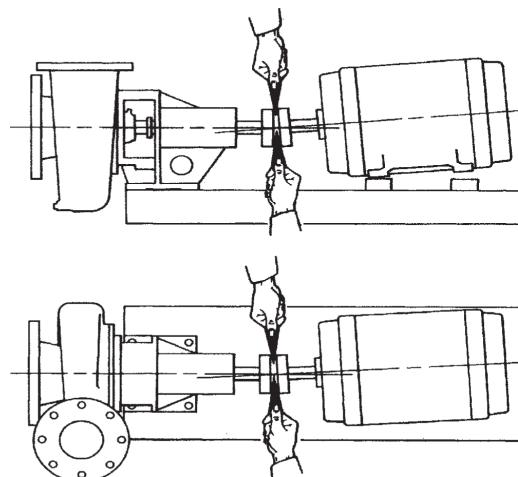
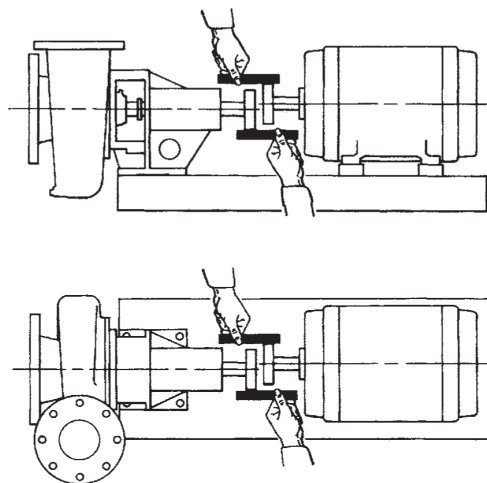

Fig. 5 Checking parallel alignment
Fig. 6 Checking alignment
3.14 Coupling alignment (LF)
- The pump and motor were accurately aligned at the factory, but handling during shipment usually alters this pre-alignment. Using a small straight edge and feeler gauges or a dial indicator, check for horizontal, vertical, and angular misalignment of the coupling hubs Fig. 5 and Fig. 6.